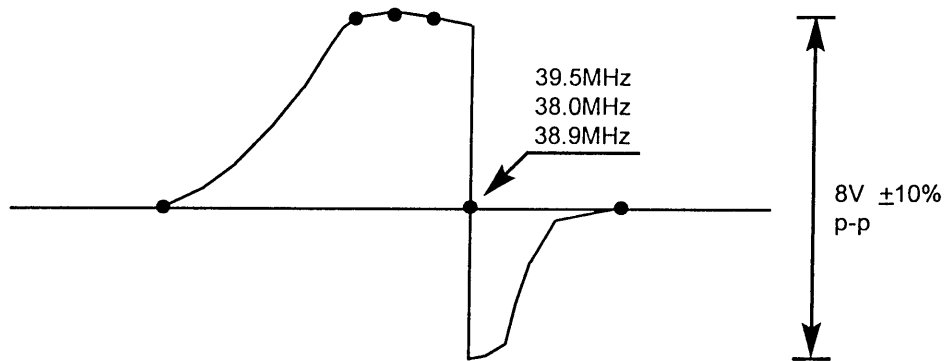

Fig. 5
C. TANK COIL ALIGNMENT STEP ( see Fig. 5 )
8. Adjust T101 to obtain the waveform as Fig.5.